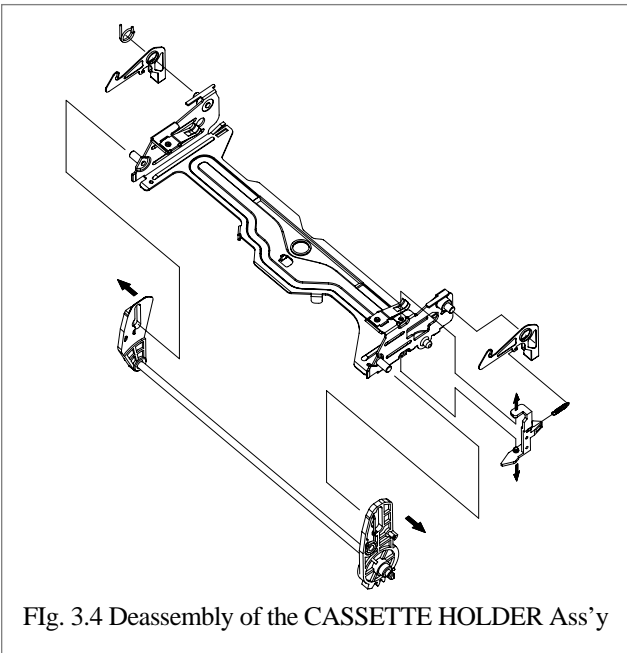

Fig. 3.4 Deassembly of the CASSETTE HOLDER Ass'y
- d. Separate the LOADING LEVER Ass'y by pressing the connection point from the CASSETTE HOLDER Ass'y. (Fig. 3.4)
- e. Remove the SAFETY SPRING connecting the SAFETY LEVER and CASSTTE HOLDER PLATE. (Fig. 3.4)
- f. Remove the RELEASE SPRING connecting the RELEASE LEVER and SAFETY LEVER. (Fig. 3.4)